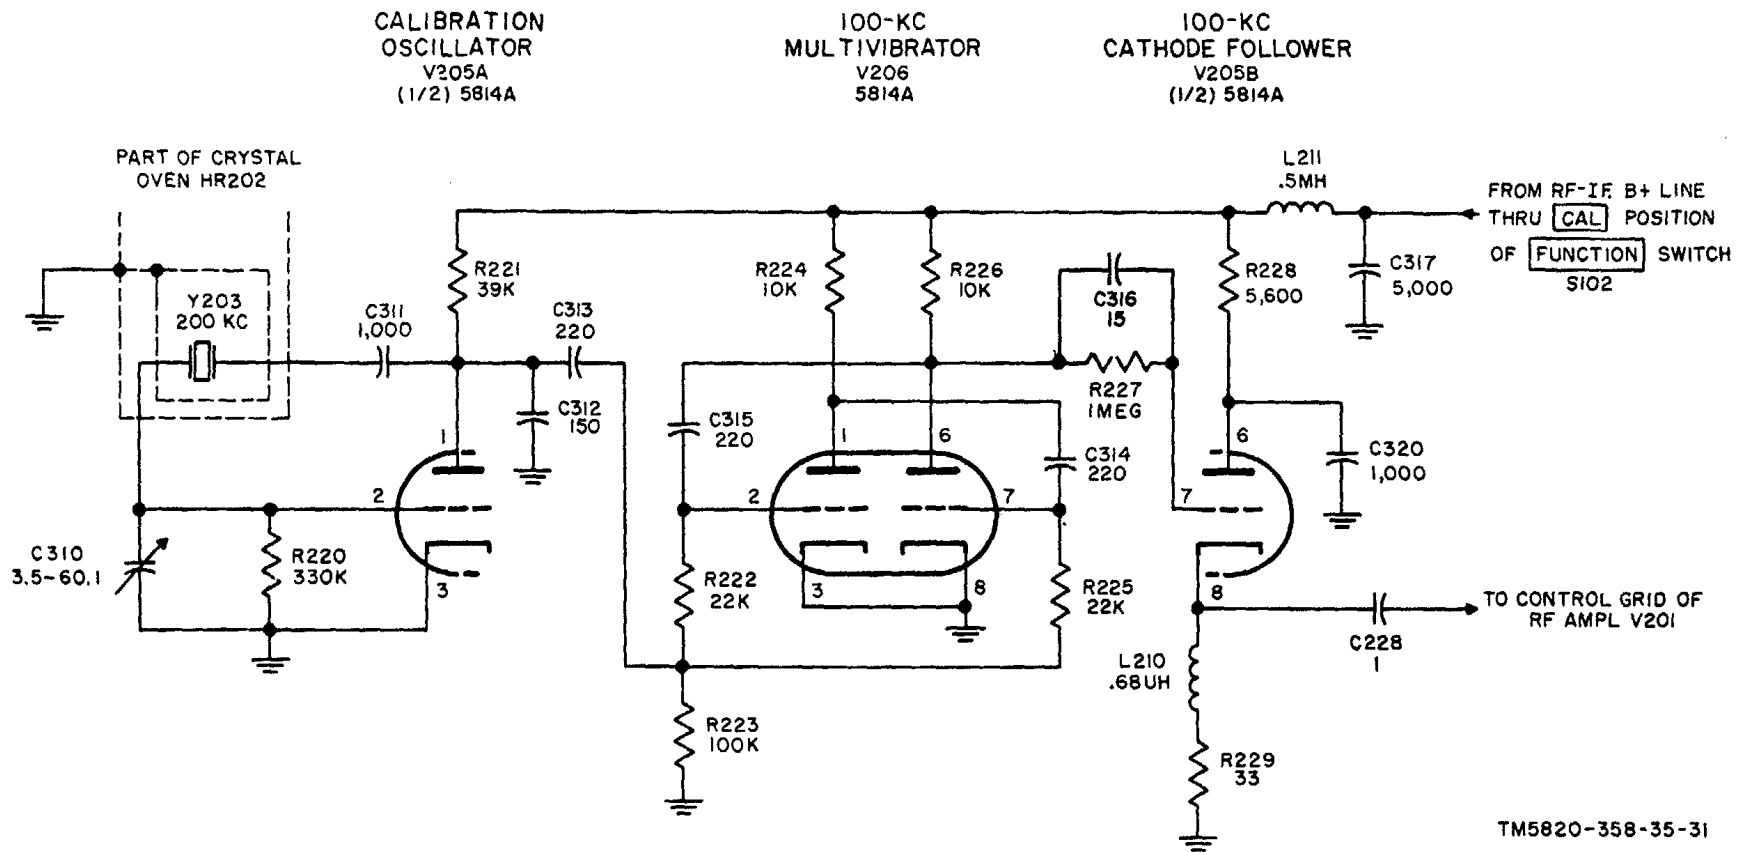

Figure 27. Calibration circuit, 100 kc, simplified schematic diagram.
27. Calibration Circuit. 100 Kc (fig. 27)